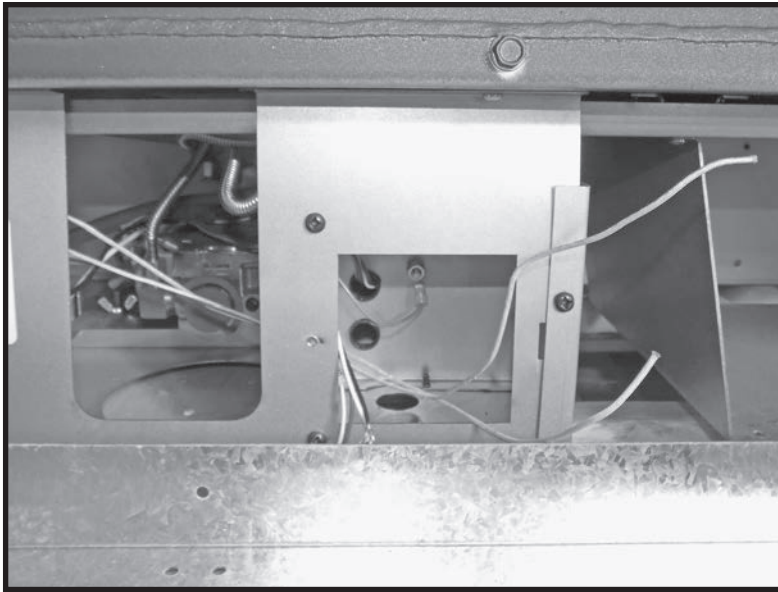

Figure 7: Bringing wires through front plate.
6. Remove the electrical connection compartment cover and feed all four lights wires through the opening. The lights wiring will connect to the wiring that supplies the fire place power (Figure 7).